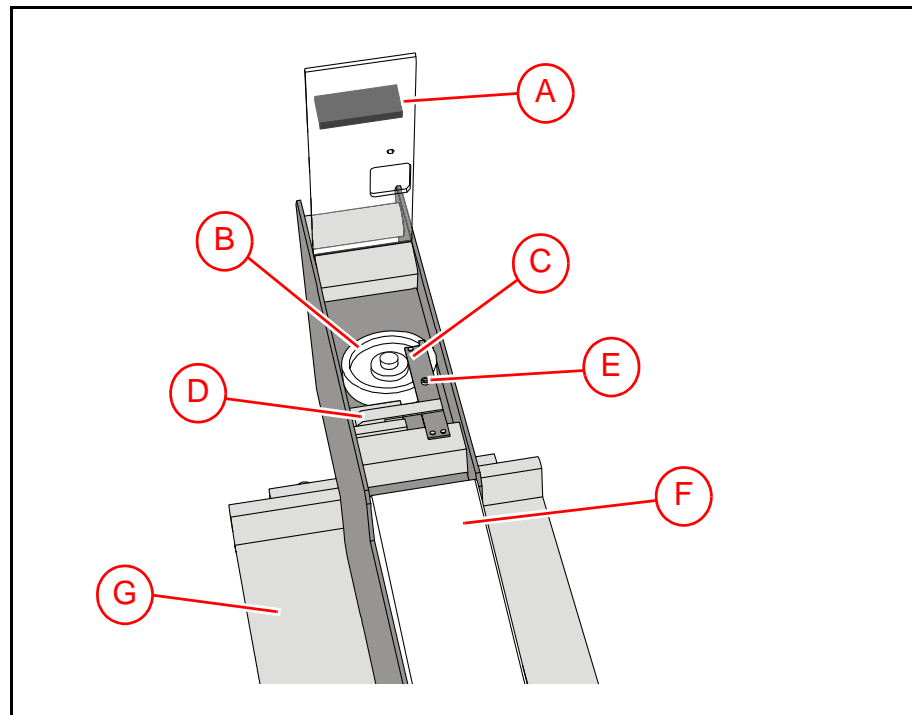

Figure 14-2. Glue station parts.
Figure 14-2 points out the main parts of the glue station. These parts are briefly mentioned below.
- Plastic cover with handle ('A' in Figure 14-2).